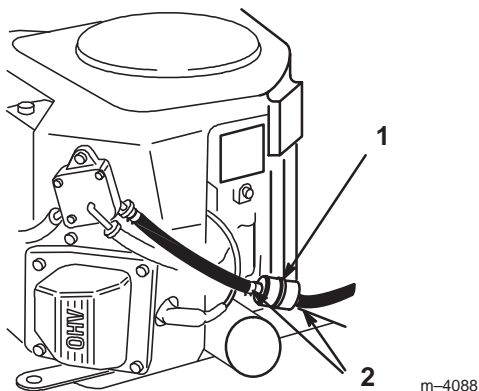

Figure 36
5. Squeeze the ends of the hose clamps together and slide them away from the filter (Fig. 36).